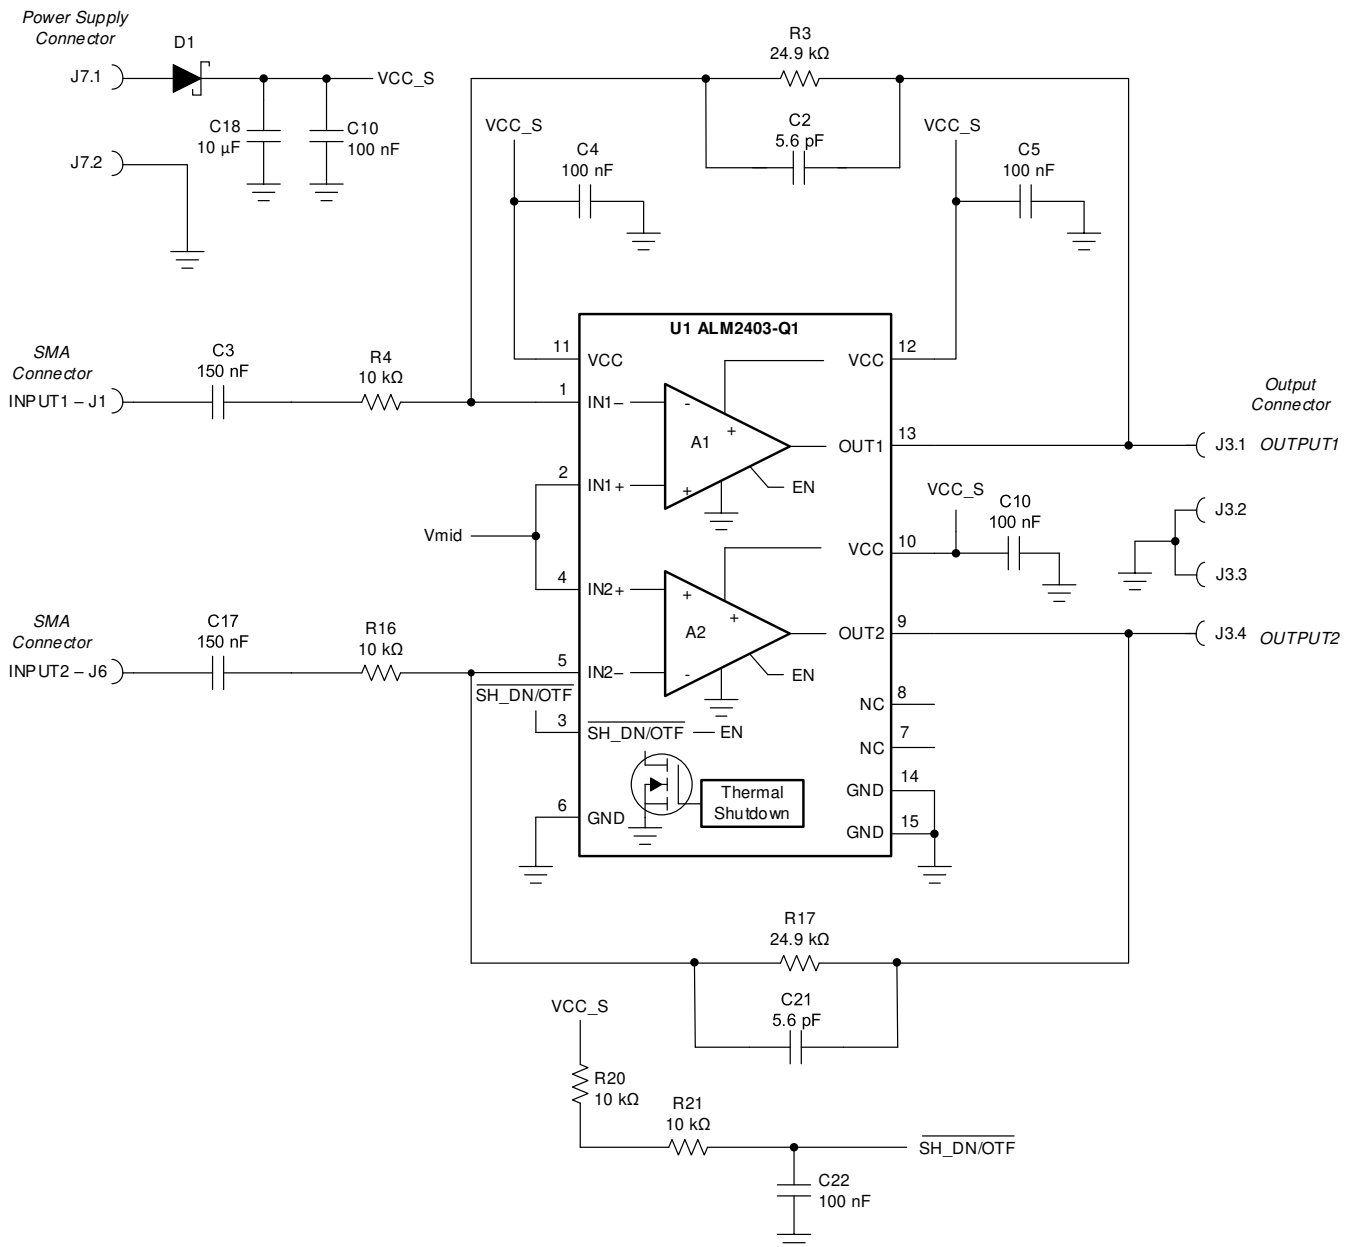

Figure 2-1. ALM2403Q1EVM Simplified Schematic
This EVM provides access to the features, and measure the performance, of the ALM2403-Q1. By default, the ALM2403Q1EVM has both amplifiers configured in the inverting configuration with a gain of  $-2.5$  V/V. A simplified schematic of the ALM2403Q1EVM is displayed in Figure 2-1. For a full schematic of the ALM2403EVM, see Figure 7-1.
• Added C2 (5.6 pF) and C21 (5.6 pF) to Figure 2-1, ALM2403Q1EVM Simplified Schematic .....	<a href="#">4</a>